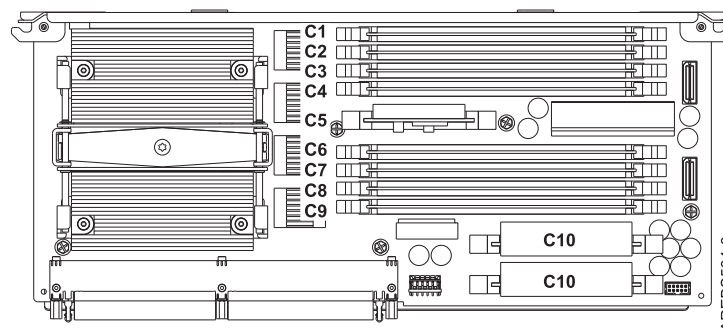

Figure 26. Memory module slot locations in the processor assembly
9. Determine the slots in which the memory modules will be placed. Each system processor assembly has eight memory module slots. See Table 7 on page 39 to ensure that memory modules are balanced on each processor assembly. The memory modules should be plugged into the slots shown in the table. For the memory module slot locations in the system processor assembly, see Figure 26 on page 39.